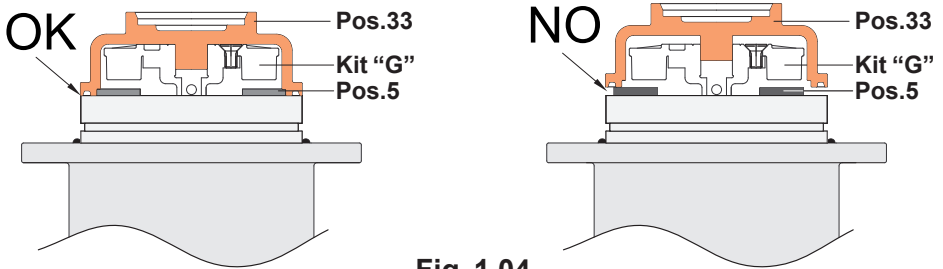

Fig. 1.04
1.2.04) Fit the diffuser kit on the impeller kit “G”, making sure to position the washer pos. 5 correctly (see fig. 1.04).